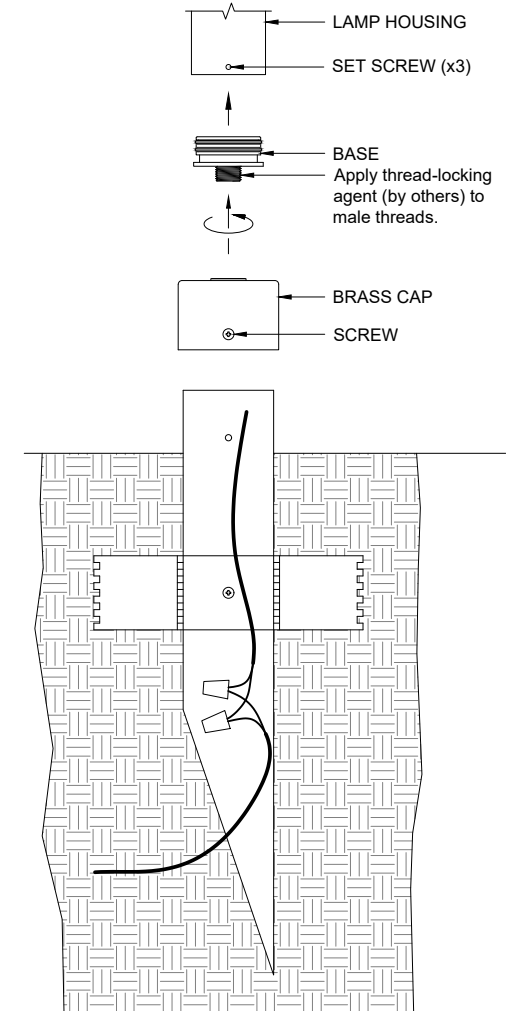

Figure 3
1. Dig a hole at desired location roughly 10" diameter x 18" deep and route the supply wires coming from the power source to the hole, entering it near the bottom. (Figure 3)